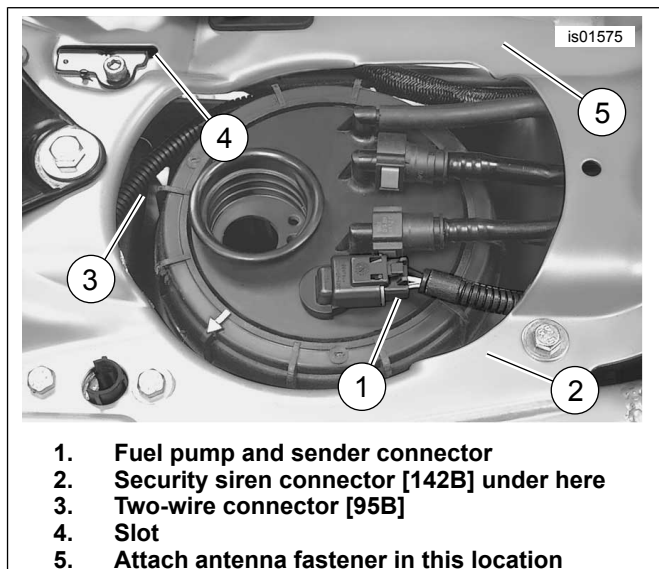
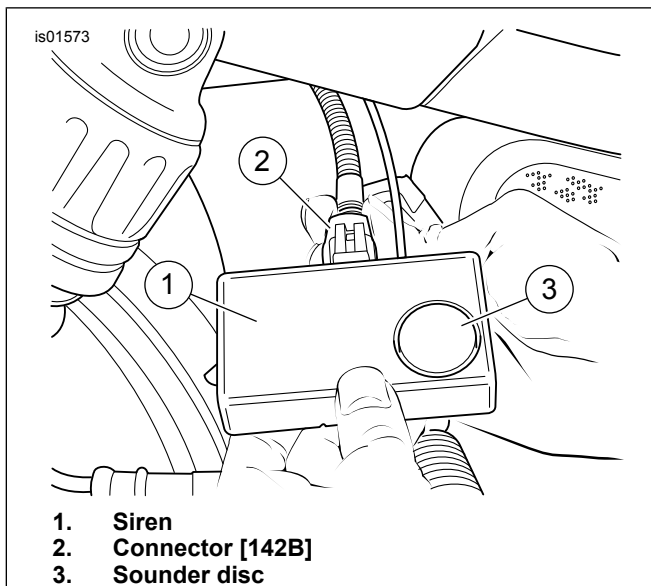
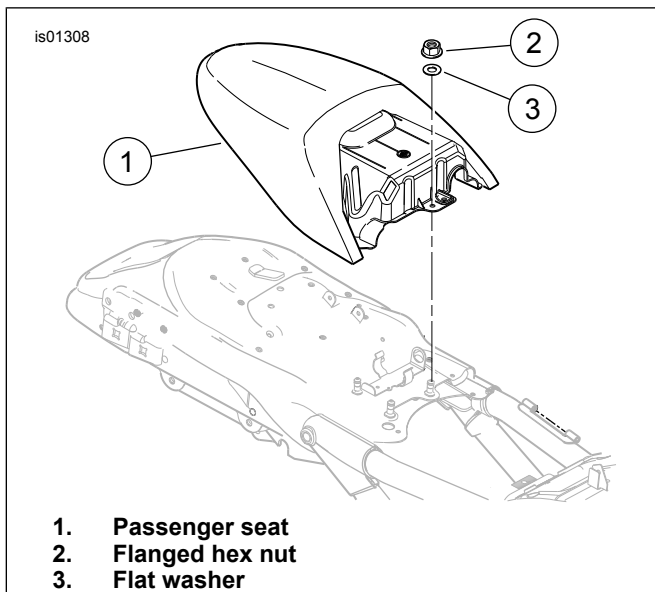

Figure 3. Locate Connector [142B] (2002-2006 VRSC Models) (Shown with Fuel Cap and Filler Boot Removed)
Figure 4. Install Siren Connector (2002-2006 VRSC Models)
Figure 6. Remove Passenger Seat (2006-2007 VRSCR)
See Figure 3. The security siren connector is a three-wire connector. Do not confuse this connector with the two-wire connector (3) tied to the harness (except on California models).
5. Locate the security siren connector (2) at the end of the harness lead that wraps around the top of the fuel tank. Disconnect the fuel pump and sender connector (1) to free the security siren connector. The protective cap and cable strap on the security siren connector can be discarded.
6. See Figure 4. Route the siren harness lead out from under the right side of the fender. Get the siren (1) from the kit. Insert connector [142B] (2) into the siren receptacle until the connector latches securely.
8. See Figure 3. Feed the siren pager antenna wire upwards through the slot (4) in the frame.
3. Locate the security siren connector (2) at the end of the harness lead that wraps around the top of the fuel tank. Disconnect the fuel pump and sender connector (1) to free the security siren connector. The protective cap and cable strap on the security siren connector can be discarded.
4. See Figure 6. Remove the flanged hex nut (2) and flat washer (3) that retain the passenger seat (1). Remove seat.
10. Refer to Figure 3. Clean the area on the frame (5) forward of the slot (4), along the space to the left of the fuel filler boot. See Adhesive Strips.